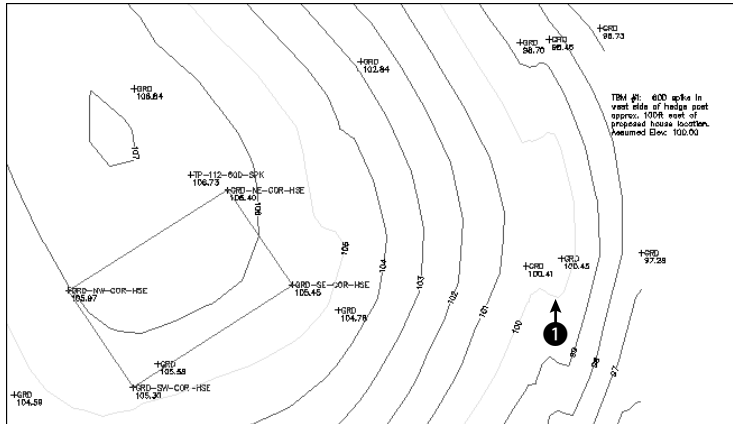

Figure 16-4: The topographical drawing's contours are polylines.
2. Save the file as ab16-02.dwg in your AutoCAD Bible folder. This is a topographical drawing, as shown in Figure 16-4. The contours are polylines.
3. Choose Modify ⇨ Object ⇨ Polyline to start the PEDIT command. Select the polyline at ❶ in Figure 16-4.
5. Type e ↵ to choose the Edit vertex option. At the Enter a vertex editing option [Next/Previous/Break/Insert/Move/Regen/Straighten/Tangent/Width/eXit] <N>: prompt, type n ↵ several times until the X mark is at ❶ in Figure 16-4. (There are many vertices, so it's not important that you find the exact one.)